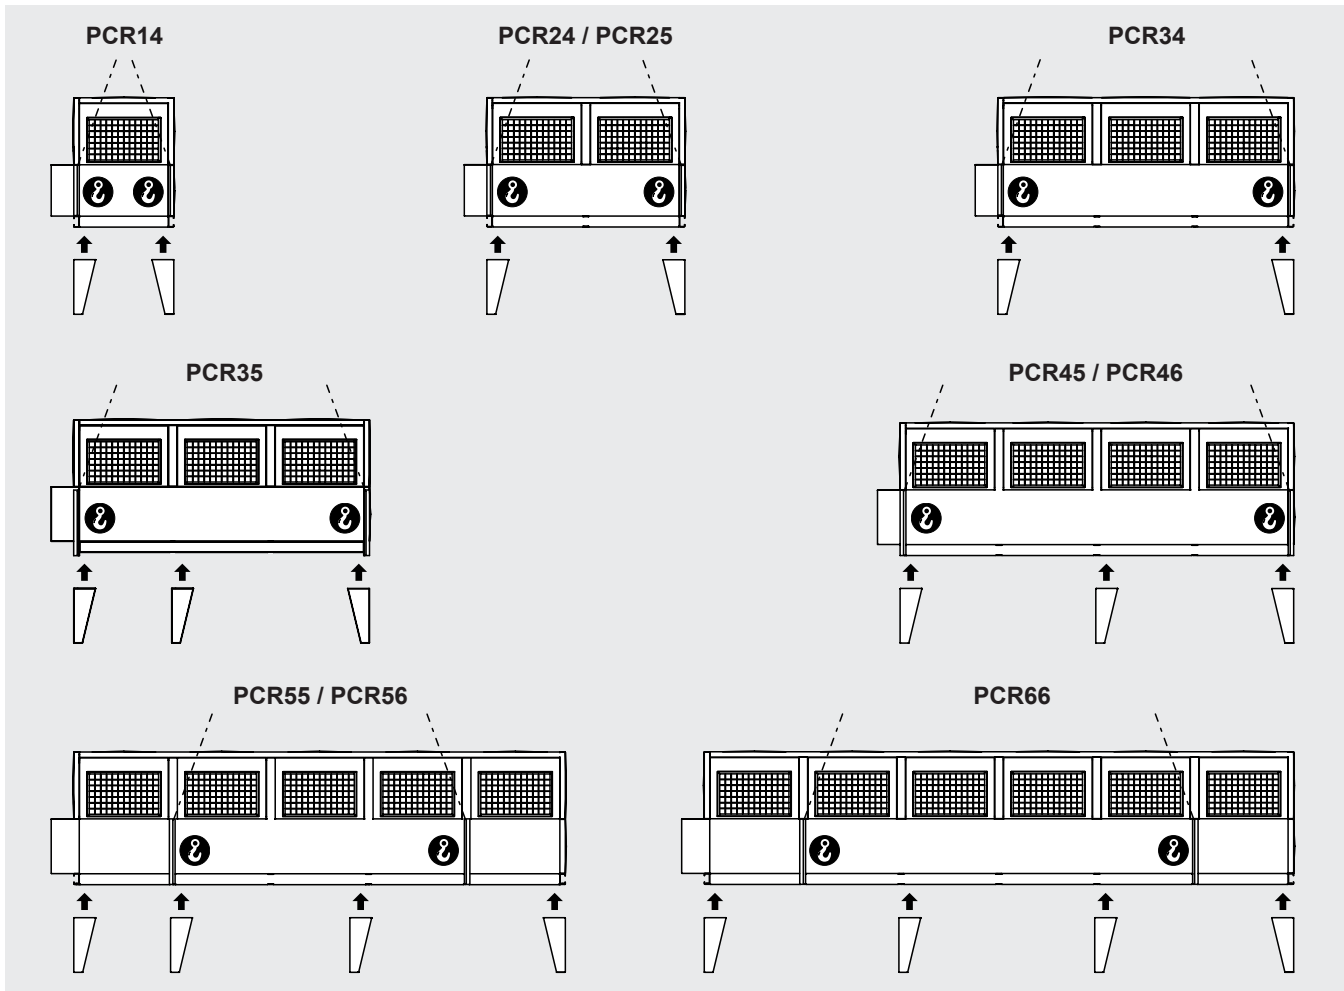

Figure 5
5.11.7 The number of supports varies depending on the model. For special models, see the documentation supplied the model itself. See Table 1 and Figure 5.